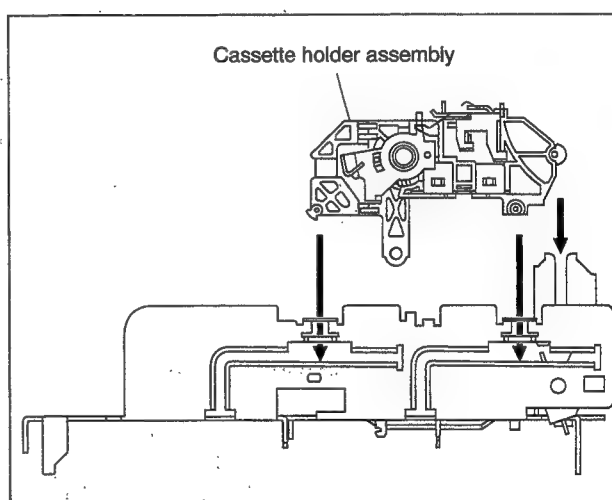
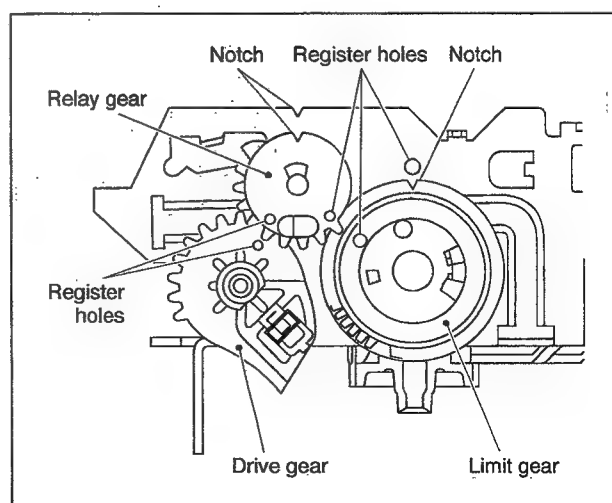

Fig. 2-2-8
Fig. 2-2-9
- (3) Drop the three legs on the left side of the cassette holder into the groove at one time. (See Fig.2-2-8)
- (4) Slide the whole cassette holder toward the front to bring it to the eject end position.
- (5) Install the limit gear so that the notch on the outer circumference of the limit gear is brought into alignment with the register hole on the main deck. (See Fig.2-2-9)
- (6) Install the relay gear so that the notch on the outer circumference of the relay gear is brought into alignment with the notch on the main deck. It is important at this stage that the register hole at the limit gear, the register hole at the relay gear and the register hole at the drive gear are all in alignment. (See Fig.2-2-9).
- (7) Install the door stopper, opener guide and cassette holder bracket and fasten the two slit washers.